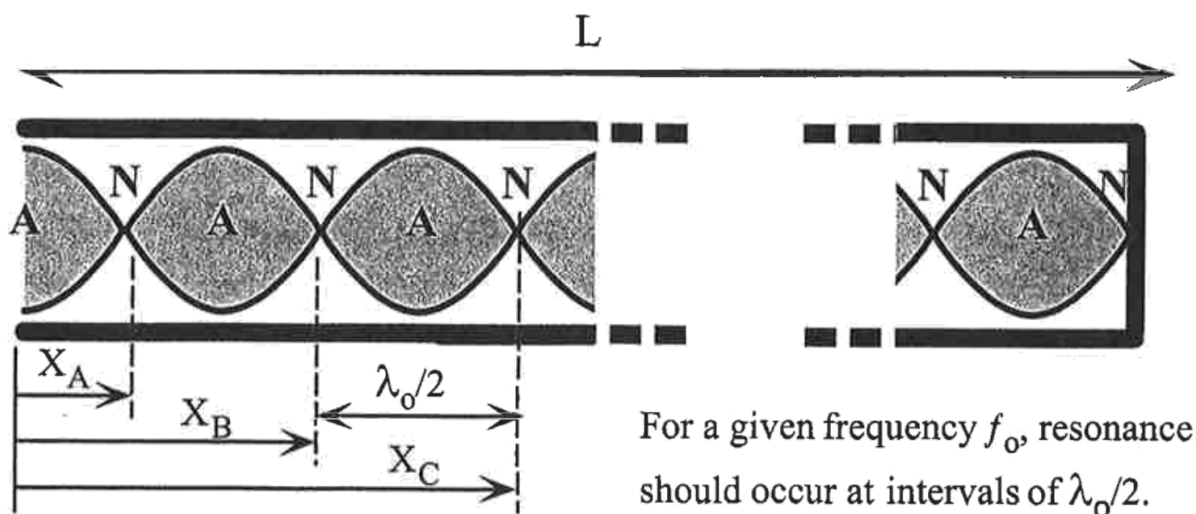

Figure 6: Resonance lengths of a closed tube at fixed frequency f_0 .
5. Note that f_0 is not the fundamental resonant frequency, f_1 , for this section of the tube, but rather an odd multiple of the fundamental. From the analysis leading to Equation D, we note that resonances for f_0 should occur at intervals of $\lambda_0/2$. (See Figure 6, below). Compare your position readings and determine the average distance between resonance positions, and thus determine λ_0 , the wavelength of the fixed frequency f_0 that you set in Part 8.